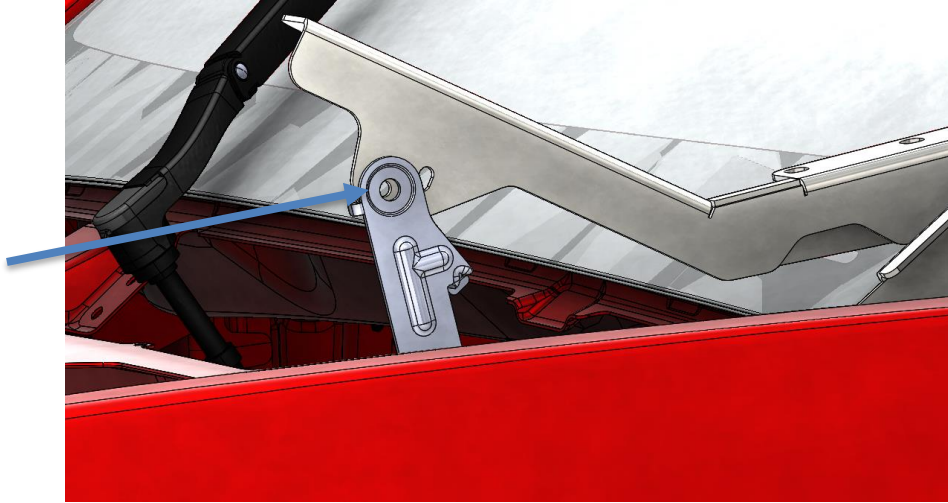

Fig 7
1. Bolt the hood spring assist arm to the upper arm of the hood hinge using the factory bolt and included stainless steel flat washer and M8 Nylock nut as shown in **Fig 7**.